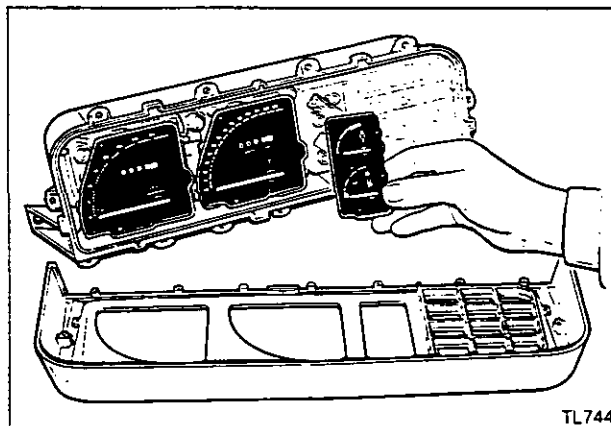

Figure 2
2. Remove the gauge assembly (Fig. 2) from the front of the panel.
6. Remove the fuel and temperature gauge (Fig. 2).